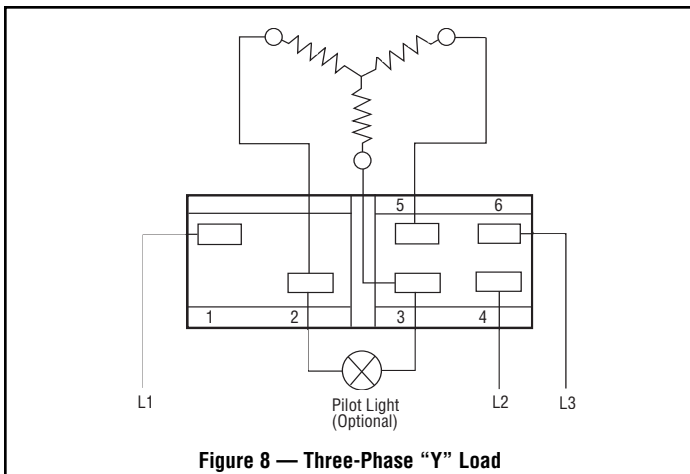

Figure 8 — Three-Phase "Y" Load
6. Connect wires according to wiring diagrams (Figures 8 thru 12). **Note:** Electrical connections should be made with generous loops of wire — approximately 6" per lead.